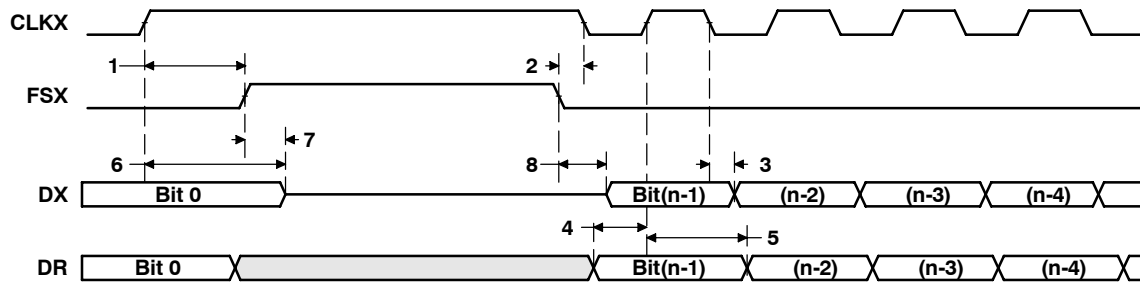

Figure 52. McBSP Timing as SPI Master or Slave: CLKSTP = 10b, CLKXP = 1
**timing requirements for McBSP as SPI master or slave: CLKSTP = 10b, CLKXP = 1†‡ (see Figure 52)**
**switching characteristics over recommended operating conditions for McBSP as SPI master or slave: CLKSTP = 10b, CLKXP = 1†‡ (see Figure 52)**